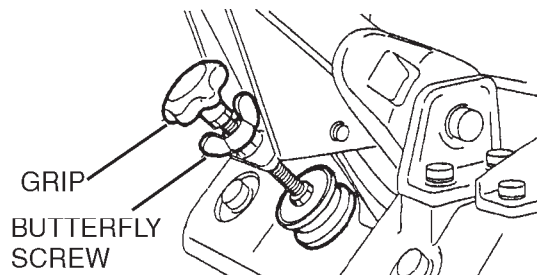

Figure 7. Handle Adjustment
1. Loosen the butterfly screw (Figure 7).